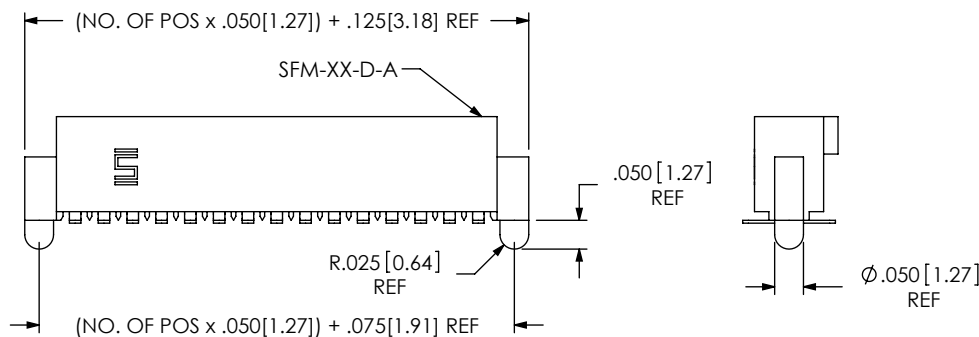

FIG 4
-A: ALIGNMENT PIN (USE SFM-XX-D-A) (SEE FIG 4, SHT 2)